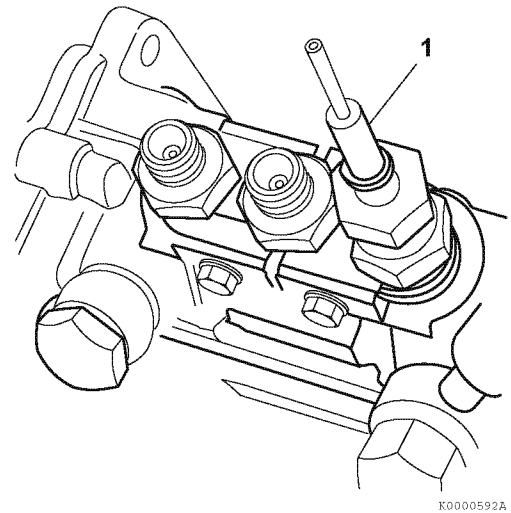

Figure 7-33
13. Install the “spill-timing” tool (Figure 7-33, (1)) onto the delivery valve for the cylinder being checked. See Measuring Instruments on page 7-9.